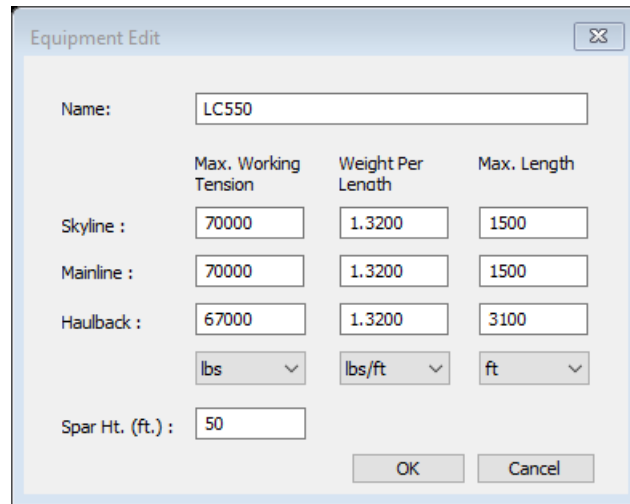

Figure 12-3: New equipment parameters in the *Equipment Edit* dialogue box.
- Fill in all of the parameters as shown in Figure 12-3 below and press *OK* to return to the previous window.